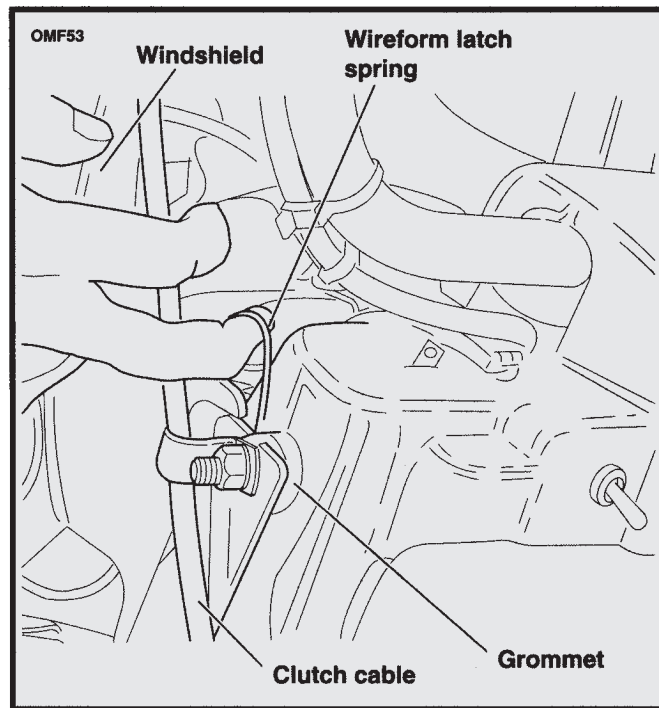

Figure 26. Road King Windshield
1. See Figure 26. Insert your fingers into the wireform latch springs at either side of the windshield and move the TOP of the windshield assembly forward, until the TOP bracket notches slide away from the grommets.
1. See Figure 26. Insert your fingers into the wireform latch springs at either side of the windshield and slide the BOTTOM windshield bracket notches onto the bottom grommets.